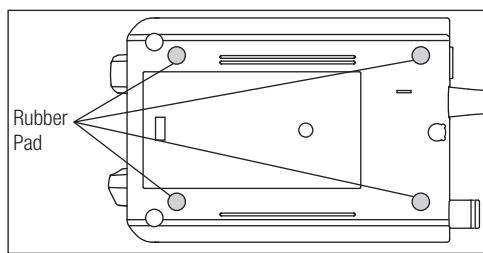

Fig.5
- 2) Fit the Rubber Pad appropriate place as shown on the Fig.5.